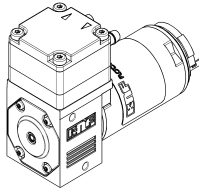

Fig. 8: Optimal mounting orientation / horizontal
- Mounting orientation → Generally speaking, the pump can be mounted in any orientation. The venting and accuracy of the pump is optimal if installed as shown in the illustration (Fig. 8).